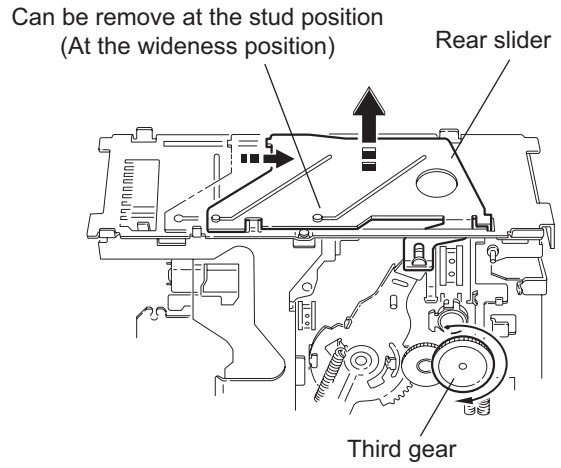

Fig.15
2.4.4 Remove the rear slider (See fig.15)